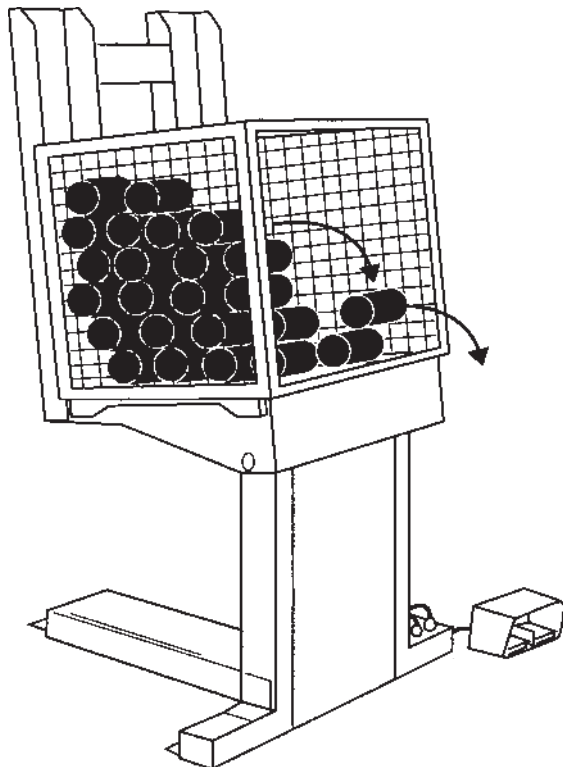

Fig. 7. Don't Overfill the Container
4. Sometimes the unit may be used to lift parts which can roll. If possible, stack the parts in the parts container so they cannot roll. Do not overfill the lifting container. See Fig. 7. If the container is too full, some of the parts may roll out of the front of the container.